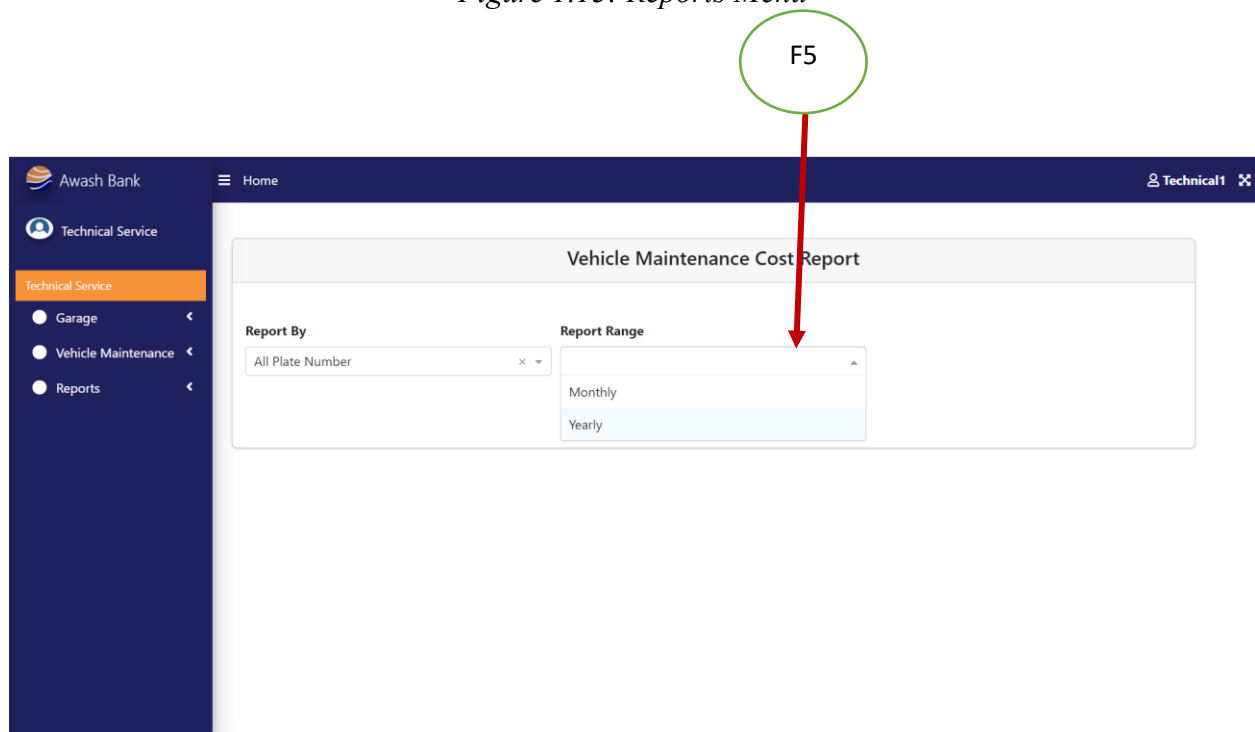

Figure 1.14: Report Range
- Click on the drop-down icon(F5) (Fig: 1.14) to select the report range